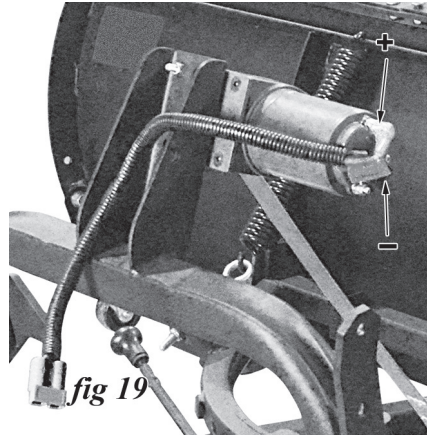
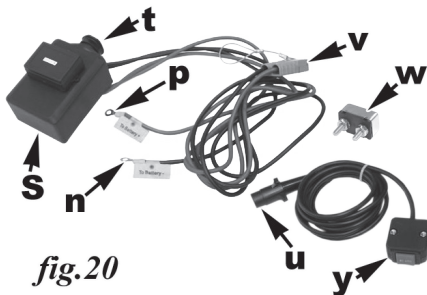

fig 19
fig.20
1. Connect the winch leads (fig.18), tagged "To Motor", to the contacts on the winch motor as shown (fig.19). Be sure the rubber caps cover the connections well to prevent water entry. The red lead should be connected to the positive (+ upper) terminal on the winch, and the black lead connected to the negative (- lower) winch terminal.
The control box includes a transponder that can connect it wirelessly to a wireless remote control switch (optional at extra cost). There is also a hard-wired manual winch control switch (y, fig.20) included to operate your plow.
1. Attach the control box (s, fig.20) to the vehicle in the engine compartment. Mount it securely, away from moving parts and sources of heat. Take into account the amount of wire available to reach the vehicle battery and the amount of wire available to connect to the winch leads.
2. Run the red (p, fig.20) and black wires (n, fig.20) attached to the blue 2 inch connector plug (v, fig.20) forward to a point outside the front of the vehicle near the custom mount, where the plug can easily be connected to the plow lead. Leave some slack.
4. The red wire must be connected to the positive terminal of the battery with an intervening in-line 35 amp circuit breaker (w, fig.20) or fuse. The 35 amp circuit breaker is necessary to prevent possible electrical damage to either the winch or the vehicle's electrical system.
5. Run the hard-wired control lead so that the switch (y, fig.20) goes into the cab of the vehicle and the plug (u, fig.19) connects to the socket in the top of the control box (t, fig.20).